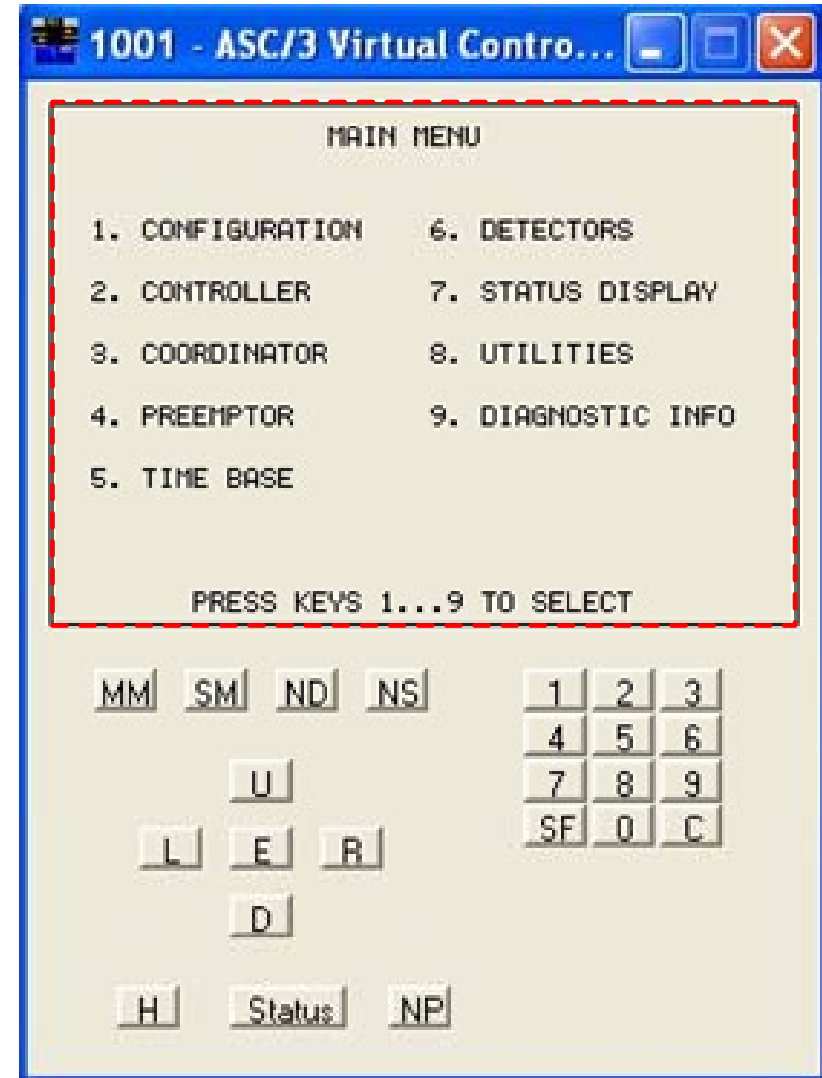

Figure 12 Controller Main Menu
- The controller Main Menu should now be in view (see Figure 12). You will use the Main Menu as the staging ground to navigate to the controller functions and settings of interest.